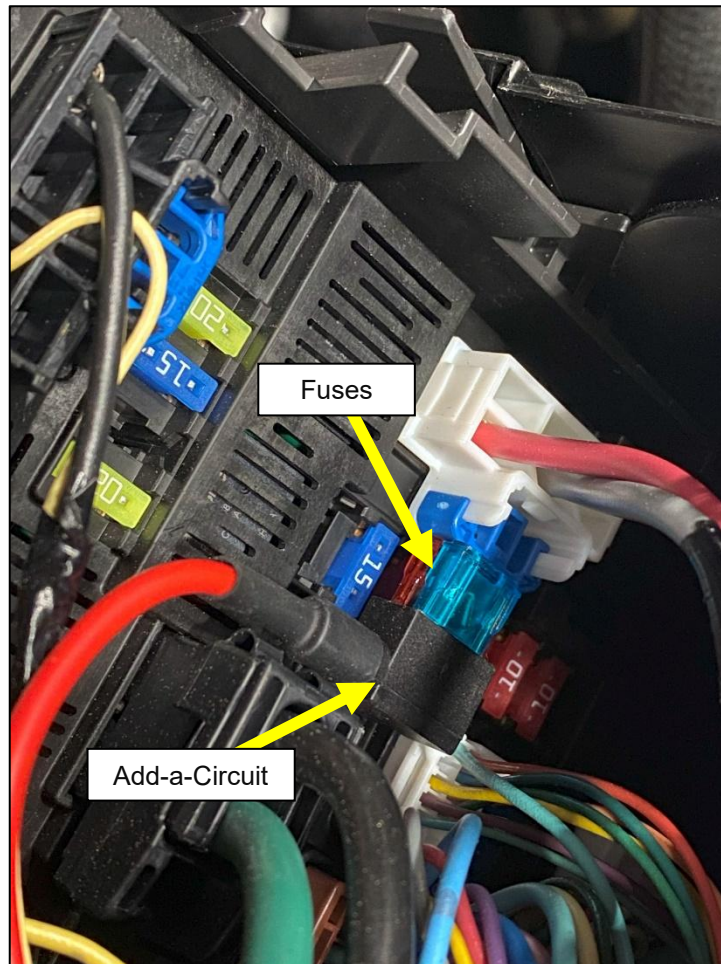

Figure 10
15. Remove the desired fuse, and install the Add-a-Circuit into the now open slot. *Figure 10.*